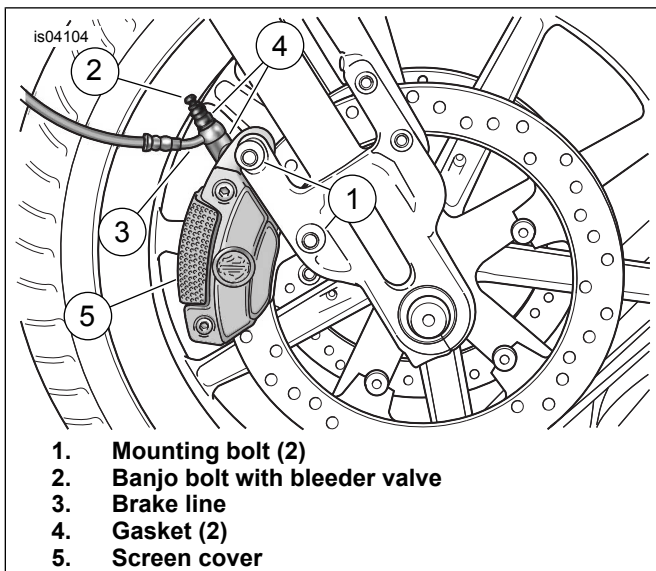

Figure 1. Remove Existing Caliper
1. See Figure 1. Refer to FRONT BRAKE CALIPERS: REMOVAL in the Service Manual, and follow the instructions to:
- a. Remove the banjo bolt with bleeder screw (2) and both gaskets (4), and
- b. detach the front brake line (3) from the caliper.
- c. Discard the gaskets. **For this installation, the banjo bolt (2) can also be discarded.**
- d. Remove the caliper mounting bolts (1). Lift the brake caliper assembly upward to remove it from the brake disc.
3. See Figure 1. Obtain two of the brake caliper mounting bolts (1), removed earlier. Loosely install both bolts through the front fork and into the chrome caliper. Alternately tighten the mounting bolts to 38–51.5 N·m (28–38 ft-lbs).
7. See Figure 1. Install the **new** screen cover (5) onto the caliper.